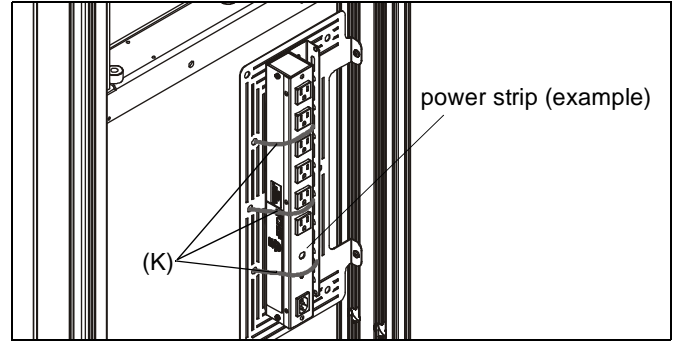

Figure 14
5. Install components to component bracket as desired using cable ties (K) or screws. (See Figure 14)